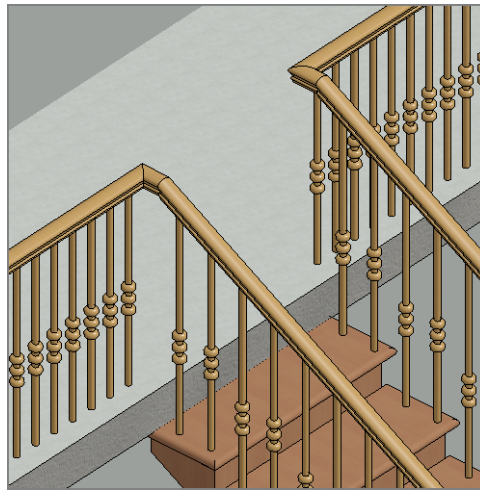

FIGURE 10.76: Both railings are in place.
7. Repeat the procedure on the other end (see Figure 10.76).